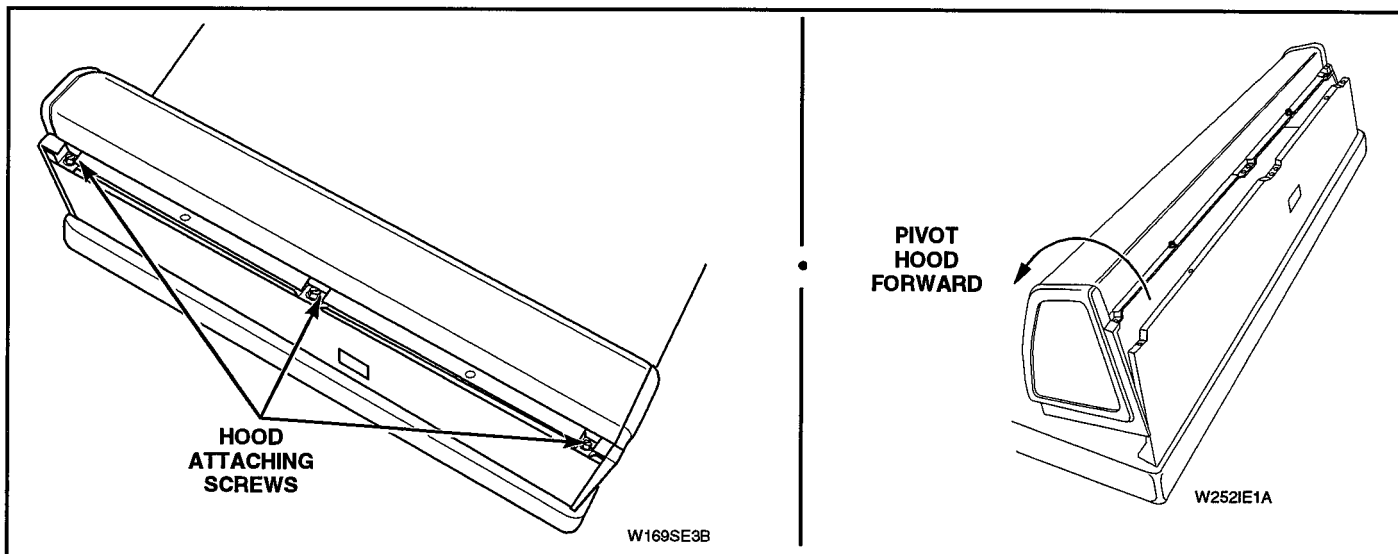

Figure 5-1
(See Figures 5-1, 5-2, 5-3, 5-4, 5-5, and 5-6)
- Remove three screws holding rear of hood assembly to control hood rear panel. See Figure 5-1.
- Pivot hood assembly forward on cabinet top. See Figure 5-1.
See Figure 5-1.